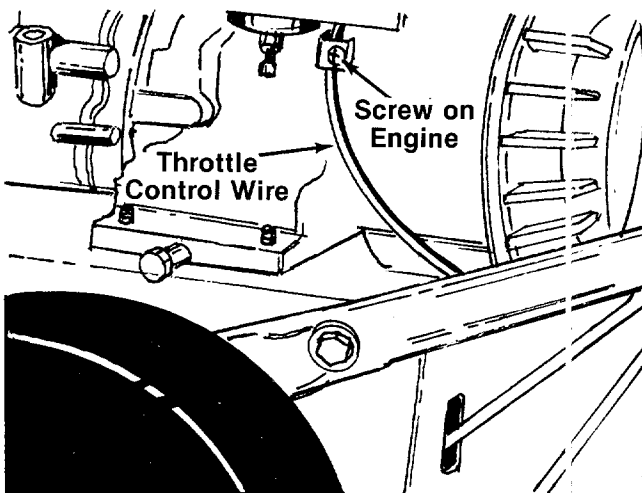

FIGURE 24.
1. Loosen, but do not remove, screw securing throttle control wire assembly at engine. See figure 24.